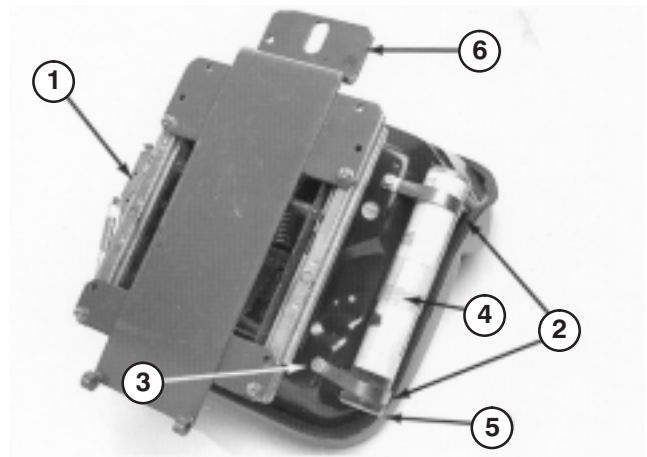

Figure 8
1. Mount seat suspension assembly to 4 capscrews on seat bottom and secure with 4 lock washers, flat washers, and nuts (Fig. 8).
2. Loosely secure 2 R-clamps to right side of seat bottom with 2 capscrews and flat washers supplied in kit (Fig. 8). Install manual tube into R-clamps and tighten capscrews (Fig. 8).
3. Mount seat support over four threaded studs at the bottom of seat suspension assembly and secure in place with flangenuts (Fig. 8).